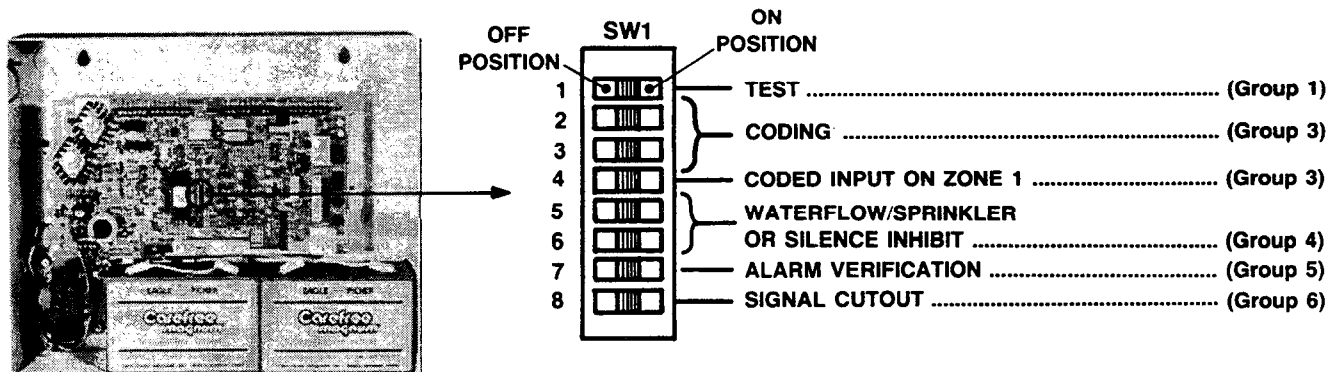

FIGURE 26
1. Go to the "OPTIONS" column in Table 6 and select one option from each of the table's six groups: TEST, CODING, CODED INPUT ON ZONE 1, WATERFLOW/SPRINKLER OR SILENCE INHIBIT, ALARM VERIFICATION or SIGNAL CUTOUT (Fig. 26).